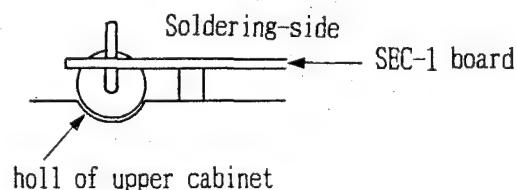

Fig.2
- 3) As shown in Figure 2, place the board on upper cabinet and solder leads with battery height aligned with the groove.